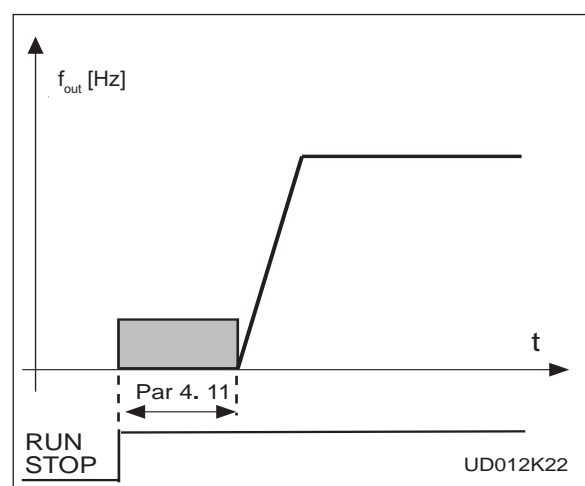

Figure 2.5-25 DC-braking time at start.
- >0 The DC-brake is activated by the start command given. This parameter defines the time before the brake is released. After the brake is released the output frequency increases according to the set start function parameter 4. 6 and the acceleration parameters (1. 3, 4. 1 or 4. 2, 4. 3). See figure 2.5-25.